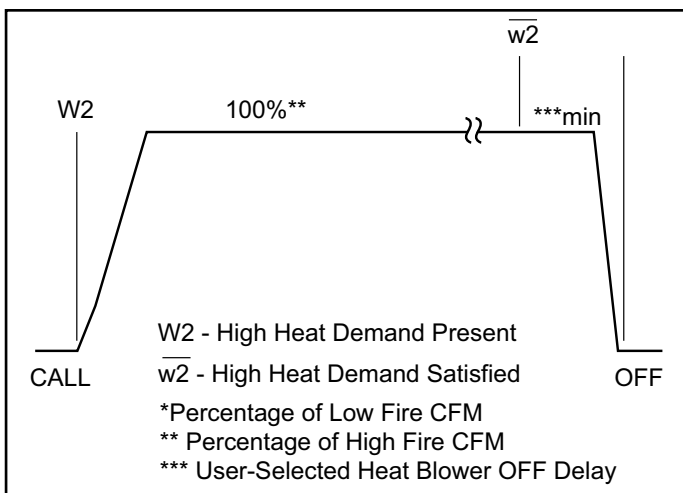
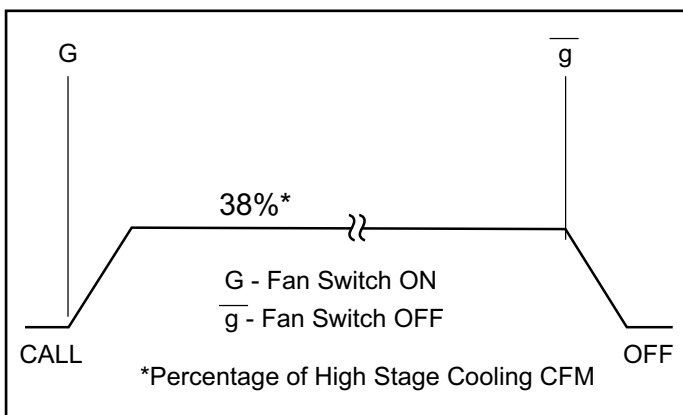

Figure 34. Indoor Blower Operation - High Heat (W2) Call
Figure 35. Indoor Blower Operation - Call for Fan
1. Connect test gauge to manifold pressure tap (Figure 34 and Figure 35) on gas valve.